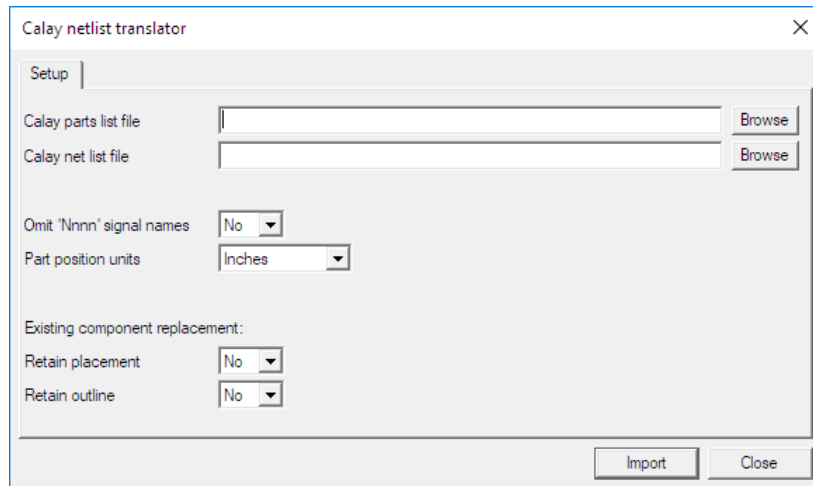

Figure 220
2. Right-click on the design's name in the navigator, select *Import > Calay parts and wiring lists from text file*. A window similar to the one in Figure 220 appears: